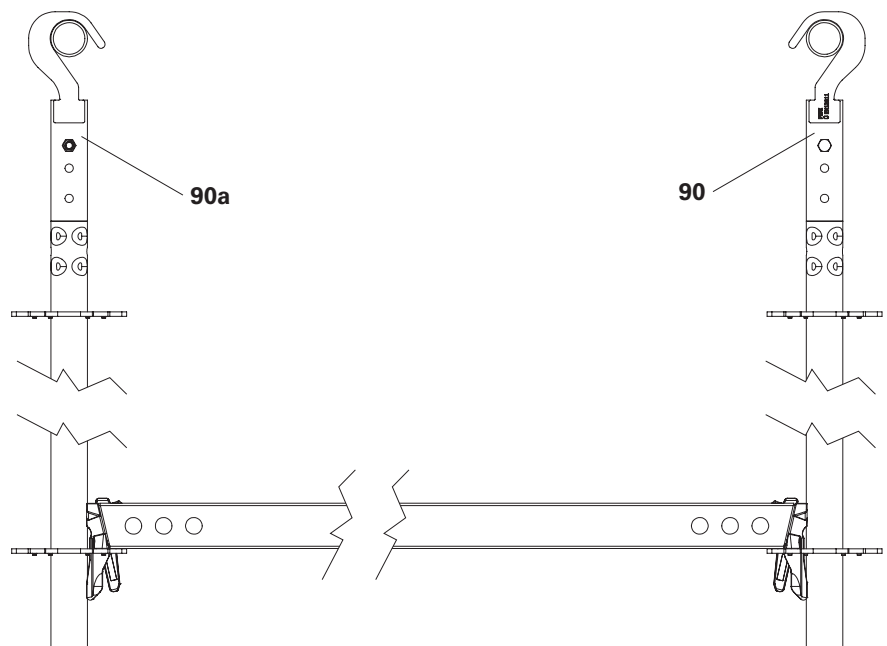

Fig. A11.02
3. Install the opposite Adapter UEH (**90a**) turned 180°. Hook openings must not point in the same direction. (see Fig. A11.02)